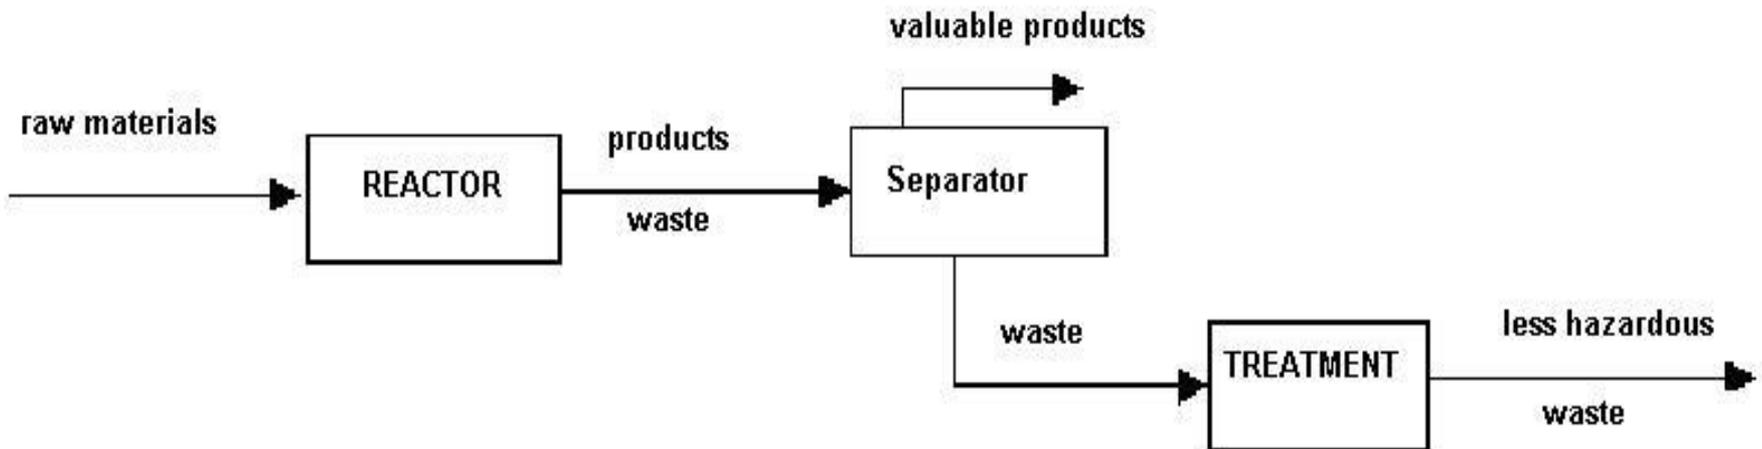

Fig. 5.7. Waste treatment
- **waste treatment:** the output is sent to a separator, and the resulted waste are sent to a treatment stage, resulting less hazardous waste (Fig. 5.7):